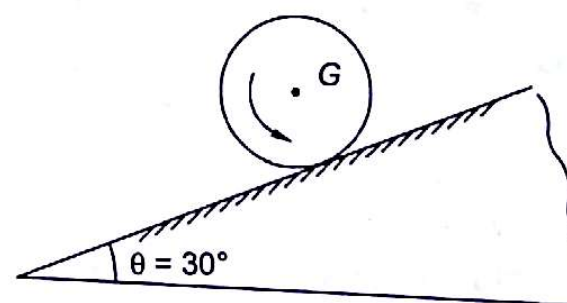

Fig. 18.16
- 18.2 A string is wound over two uniform discs of radius R and mass m as shown in the Fig. 18.16. The system is released from rest, determine the acceleration of the mass centre G_2 of disc II.
- 18.5 The mass of a homogeneous sphere of radius 0.16 m is 30 kg. The coefficient of friction between sphere and inclined plane is 0.10. Sphere is on inclined plane as shown in Fig. 18.16. Determine the angular acceleration of the sphere and linear acceleration of its mass (I_g of sphere $= 0.4mR^2$).